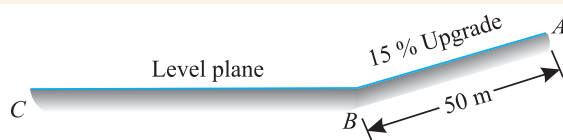

Fig. 24.9
1. A body of mass 500 kg, initially at rest at A 50 m from B on an 15% upgrade, is allowed to slide down as shown in Fig. 24.9.